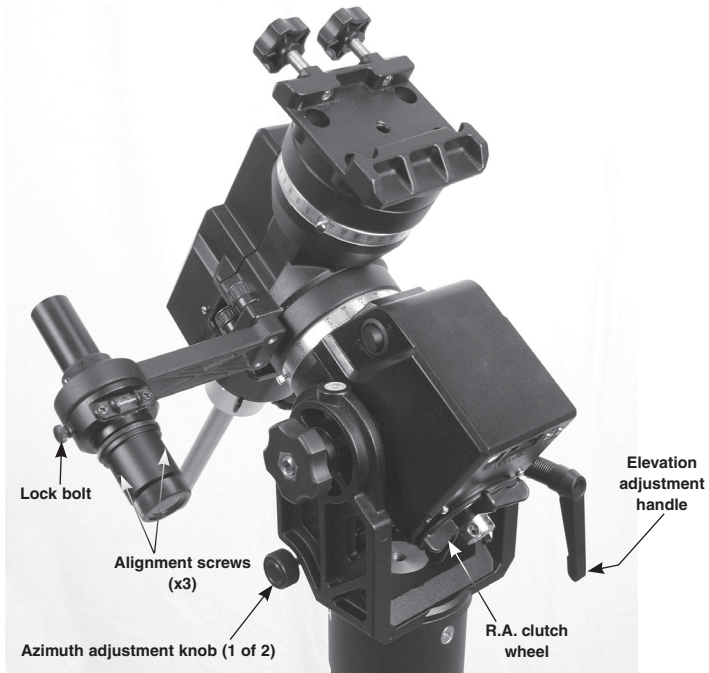

Figure 4. Calibrating the polar scope requires adjusting the mount's manual elevation and azimuth controls.
1. **For observing in the Northern Hemisphere:** The circle with fine graduations in the center of the reticle is for polar alignment in the northern hemisphere. Find the star Polaris (the brightest star near the North Celestial Pole, or NCP) in the polar scope; then use the spring loaded elevation adjustment handle and the two azimuth adjustment knobs on the mount (**Figure 4**) to move Polaris to the proper position in that graduated circle (*Refer to the upcoming section "The Orientation of Polaris in Polar Scope"*). Polaris's orbit around the NCP—which is represented by the intersection of the two perpendicular crosshairs—changes gradually. The three central circles in the polar scope reticle are the orbits for the years 2012, 2020, and 2032. Users should refer to these circles and the current year to put Polaris at the proper radius.
2. **For observing in the Southern Hemisphere:** In the polar scope's field of view, locate the four dim stars (~ magnitude 5 - 6) of Octans that conform to the pattern shown on the reticle. Use the spring loaded elevation adjustment handle and the two azimuth adjustment knobs on the mount (**Figure 4**) to move those stars into the four small circles labeled "Octans" on the reticle.
1. Put a distant landmark or object at the center of the reticle in the polar scope's FOV using the azimuth adjustment knobs and the elevation adjustment handle (**Figure 4**).
5. If the object moved off center, adjust the three alignment screws (**Figure 4**) with a 1.5mm Allen key to move the object HALFWAY back to center. When making the adjustment, loosen one screw by 1/4 turn each time, then tighten the other two screws.
3. Loosen the locking bolt in **Figure 4**, then rotate the polar scope so the 0–6 line in the reticle is parallel to the vertical reference of the object.
1. Put a distant landmark or object in the center of the reticle in the polar scope's FOV with the azimuth adjustment knobs and the elevation adjustment handle (**Figure 4**).